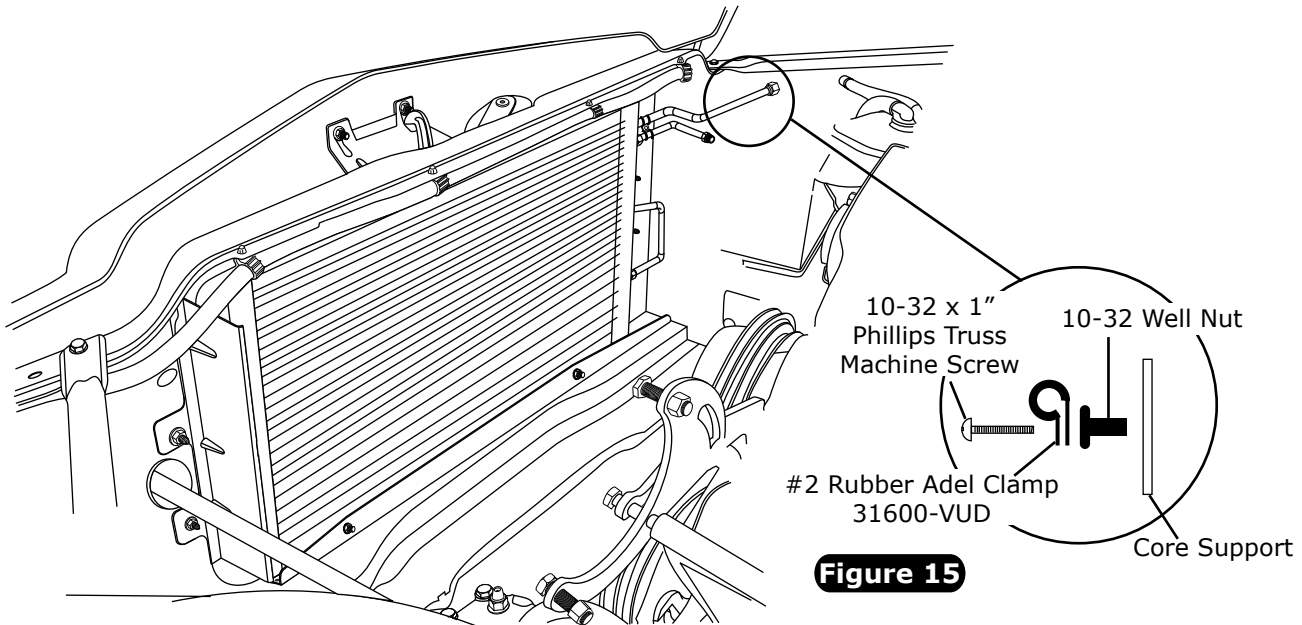

Figure 15
1. Locate 1/4" OEM hole used for the wire loom above the hole used for the ground wire near the back of headlight and enlarge hole to 3/8". Install 10-32 well nut, #2 rubber adel clamp and 10-32 x 1" Phillips truss machine screw into hole to secure #6 drier/core hardline as shown in Figure 15, below.